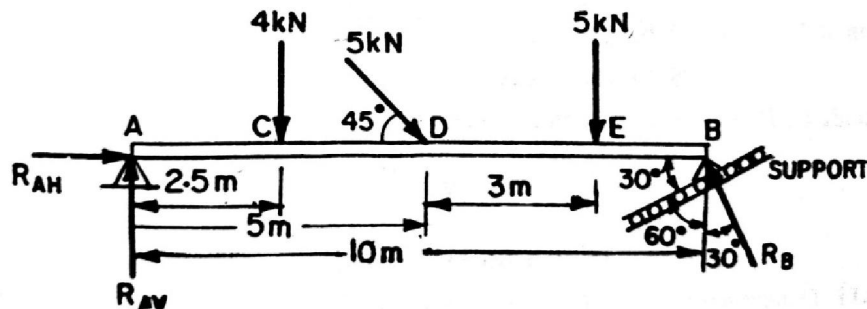

Fig. 2
- 10 A beam AB 10m long is hinged at A and supported on rollers over a smooth surface inclined at  $30^\circ$  to the horizontal at B. The beam is loaded as shown in Fig 2. Determine the reactions at A and B. (10)